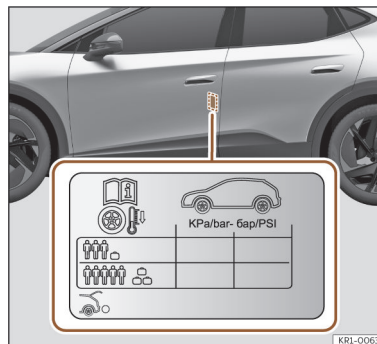

Fig. 200 Location of the tyre pressure sticker.
- Adjust tyre pressure to the load being carried by the vehicle >>> **Fig. 200**.
The values of the tyre pressure are shown on the sticker label located on the rear frame of the front left door >>> **Fig. 200**.
The tyre pressure must be adjusted according to the load the vehicle is carrying. If the vehicle is going to be fully loaded, increase the tyre pressure to the maximum load value shown on the sticker label >>> **Fig. 200**.
In the case of a minimised temporary spare wheel (125/70 R16 or 125/70 R18) inflate to a pressure of 4.2 bar as indicated on the tyre pressure label >>> **Fig. 200**.
- The driver is responsible for ensuring that all of the vehicle tyres are correctly inflated to the right pressure. The recommended tyre pressure is indicated on the label >>> **Fig. 200**.
- Tyre pressure should be that indicated on the label when the tyres are cold at all times >>> **Fig. 200**.